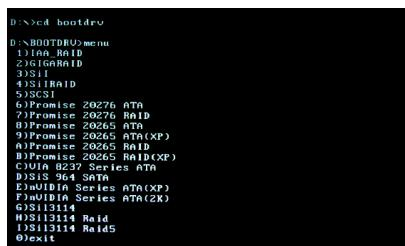

Fig.2
Step 2: When the controller menu (Fig.2) appears, remove the startup disk and insert the blank formatted disk. Select the controller driver by pressing the corresponding letter from the menu(Note2). Your system will then automatically zip and transfer this driver file to the floppy disk. Press 0 to exit when finished.
Use an alternative system and insert the GIGABYTE motherboard driver CD-ROM. From the CD-ROM drive (example: D:\) double click the **MENU.exe** file in the **BootDrv** folder. A command prompt window will open similar to that in Fig. 2.